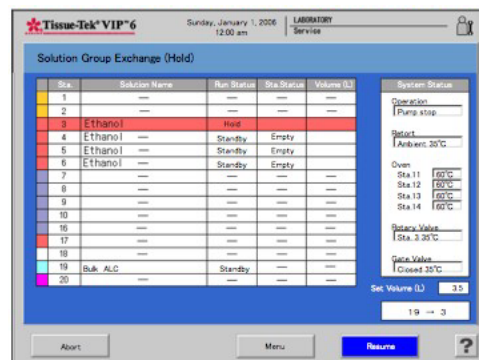

Figure 3-ZZZ
- The Exchange Hold (Solution Group Exchange) screen is displayed (Figure 3-ZZZ).